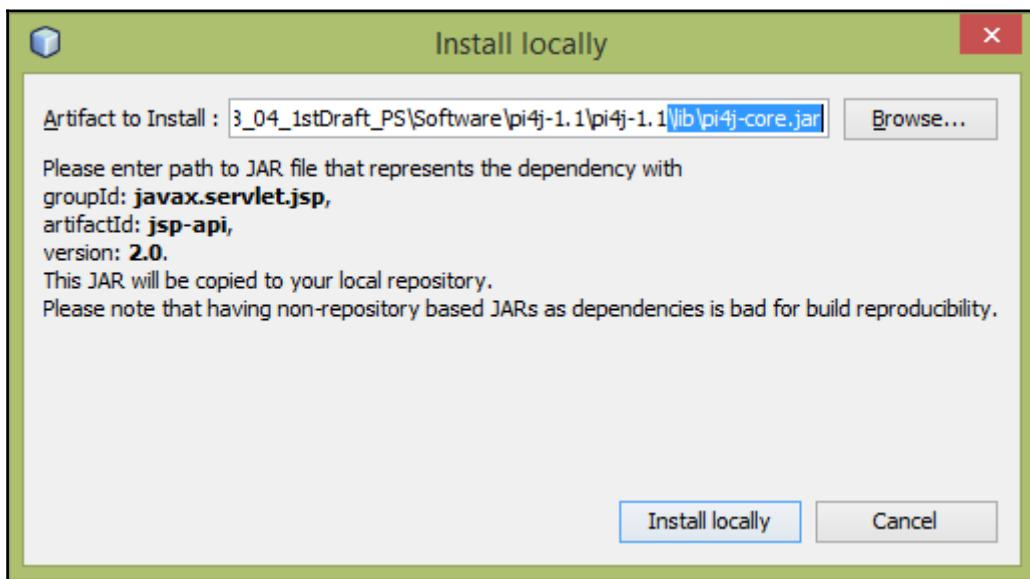

Figure 6-13: Installing an Artifact
7. In the **Install locally** dialog box, browse for the `pi4j-core.jar` file and click **Install locally** button to install it in your project (Figure 6-13):